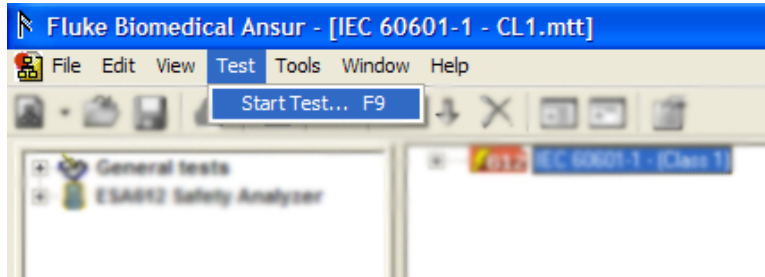

Figure 3-4. Starting a Test Template
1. Click **Test** → **Start Test** or click the Start Test toolbar button (▶▶) to display test initialization window as shown in Figure 3-4.